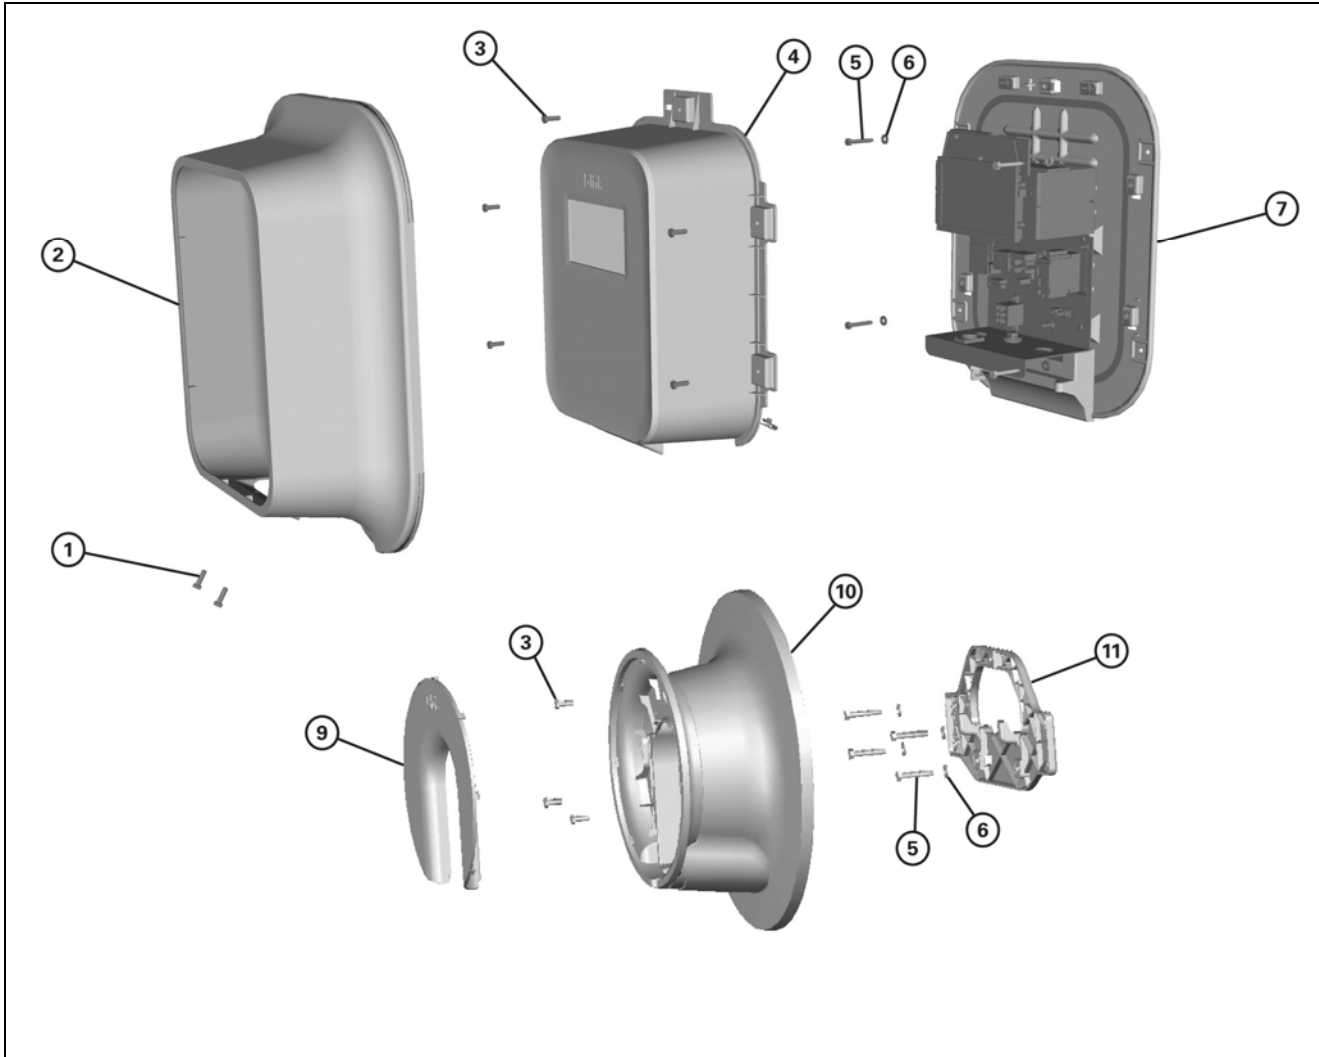

Figure 4 – Charger Housing Assembly and Cord Reel
8. Place the charger housing assembly back in position on the wall and install four ¼-inch lag screws with washers (Items 5 and 6, Figure 4) to secure the housing assembly in place. Tighten the screws enough to remove any gaps between the wall, housing base plate, washer, and screw head.
3. Place the cord reel cleat (Item 11, Figure 4) in the desired location on the wall with the mounting holes in the cleat over the marked studs, if applicable.
6. Place the cleat back in position on the wall and install four 1/4-inch lag screws with washers (Items 5 and 6, Figure 4) to secure the cleat in place. Tighten the screws enough to remove any gaps between the wall, cleat, washer, and screw head.
7. Place the cord reel in position on the cleat. Using a socket wrench with extension, install three M6 hex-head bolts (Item 3, Figure 4) to attach the reel to the cleat. Tighten the bolts to 35–38 in-lb (4.0–4.3 Nm).
1. Remove five M6 hex-head bolts (Item 3, Figure 4); then, remove the charger housing cover from the charger assembly. DO NOT remove the four lag screws securing the charger assembly base to the wall.
8. With the service wiring complete, place the housing cover in position on the charger assembly and install five M6 hex-head bolts (Item 3, Figure 4) to secure the cover in place. Tighten the bolts to 35-38 in-lb (4.0-4.3 Nm).
10. Install two Torx-head screws (Item 1, Figure 4) at bottom to secure the bezel to the charger housing.